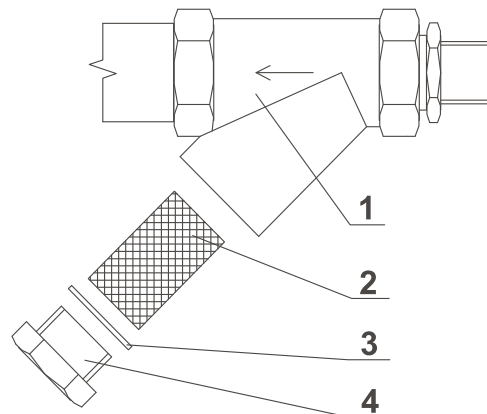

Fig.5.10.
2. Unscrew the filter plug, fig.5.10, pos.4 and remove the filter sieve (2).
4. Put the sieve (2) and gasket (3) back to the filter body (1) and tighten the plug (4).